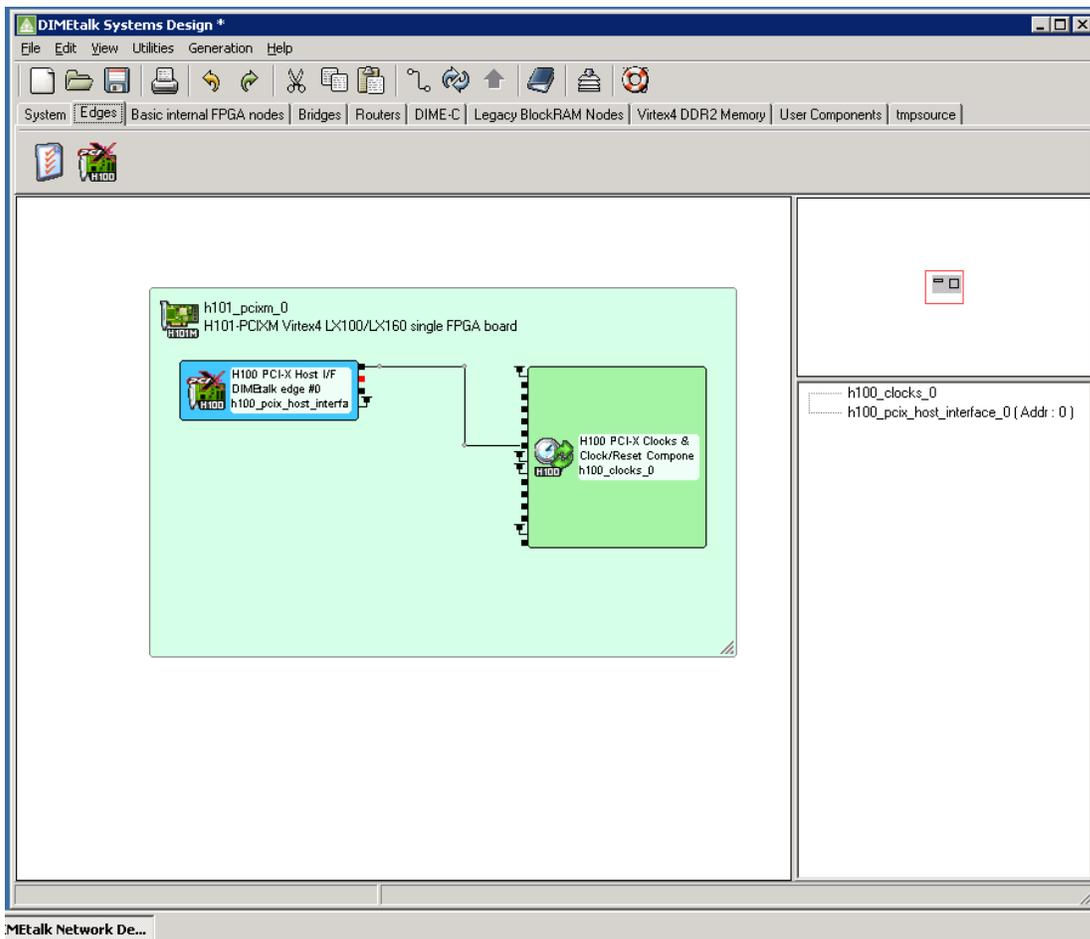

Fig.2 Connect clock node of PCI-X H100 edge component to the PCIXInterface Clock node of the H100 clock component
- i. Two important components that are to be present in every design are the clock (Click on systems tab and you will find H100 clock component) and PCI-X edge (Click on Edge tab and use PCI-X H100 component). Connect the PCIXInterface clock node on the PCI-X H100 component to the PCIXInterface clock node on the H100 clock component – Refer Fig.2